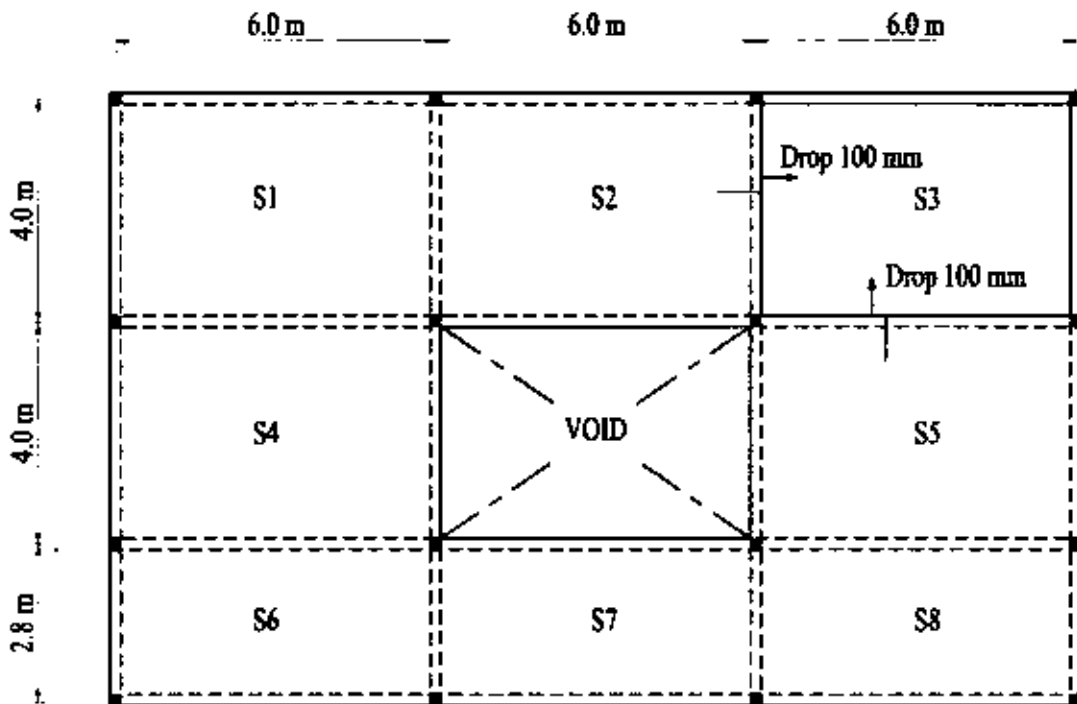

FIGURE Q5
- Q5.** a) Figure Q5 shows the first floor plan of an office building.